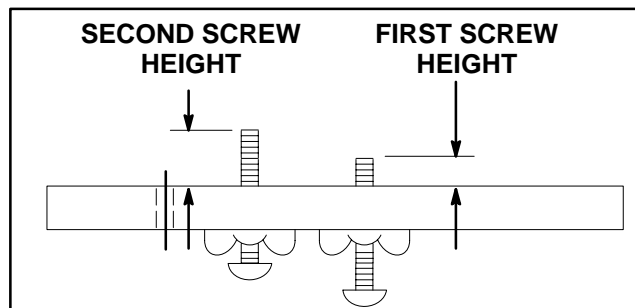

Figure 22
6. Using a vernier caliper measure the height of first and second screw. This measurement is from the bar face to the end of the screw (Fig. 22).